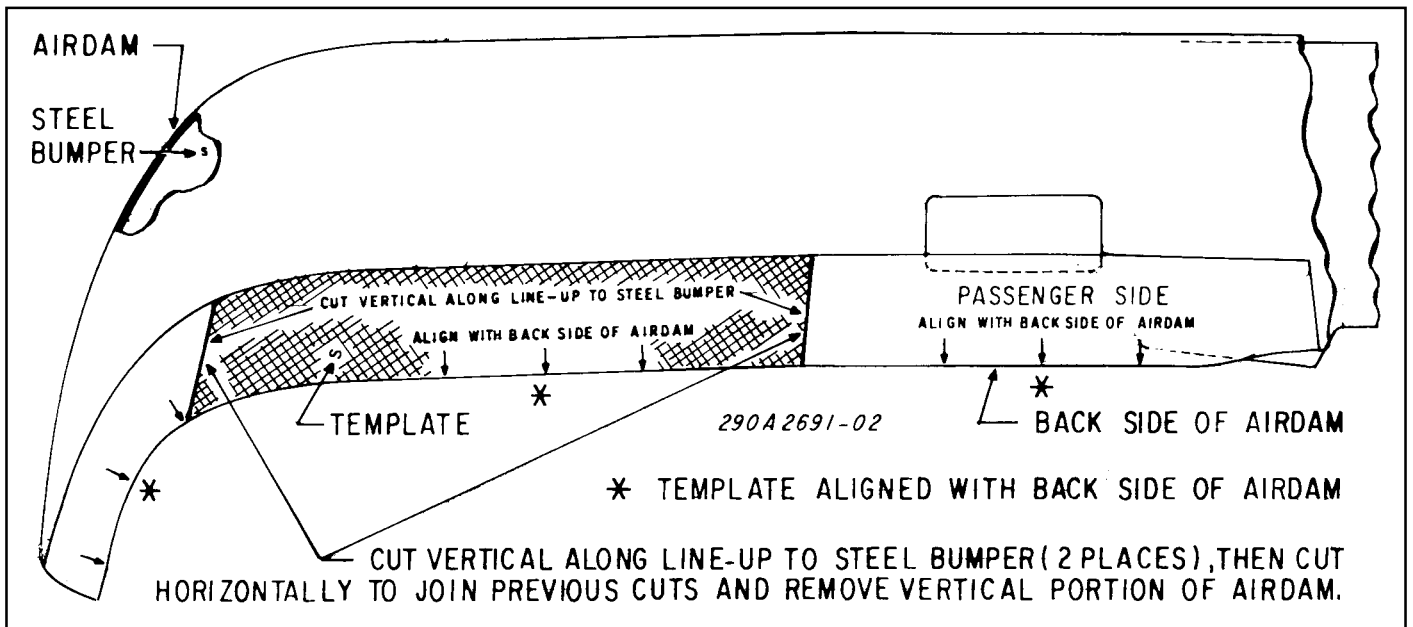

Figure 2. Underside View of Bumper/Air Dam Assembly.
2. To attach the templates to the underside of the air dam, remove the backing from a template. See figure 2. Align the back side of the template with the back side of the air dam, and adhere the template to the air dam's underside.
3. See figures 2 and 3. Cut vertically along the template lines up to the bumper. Make an initial horizontal cut between the two vertical cuts as close to the bumper as possible. Remove the cut portion of the air dam.